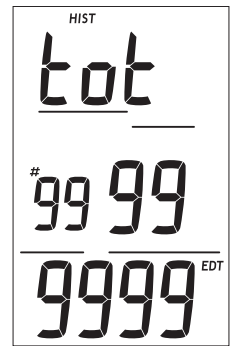

Fig. 43 - HISTORY 1
**History 1**, information includes (Fig. 43):